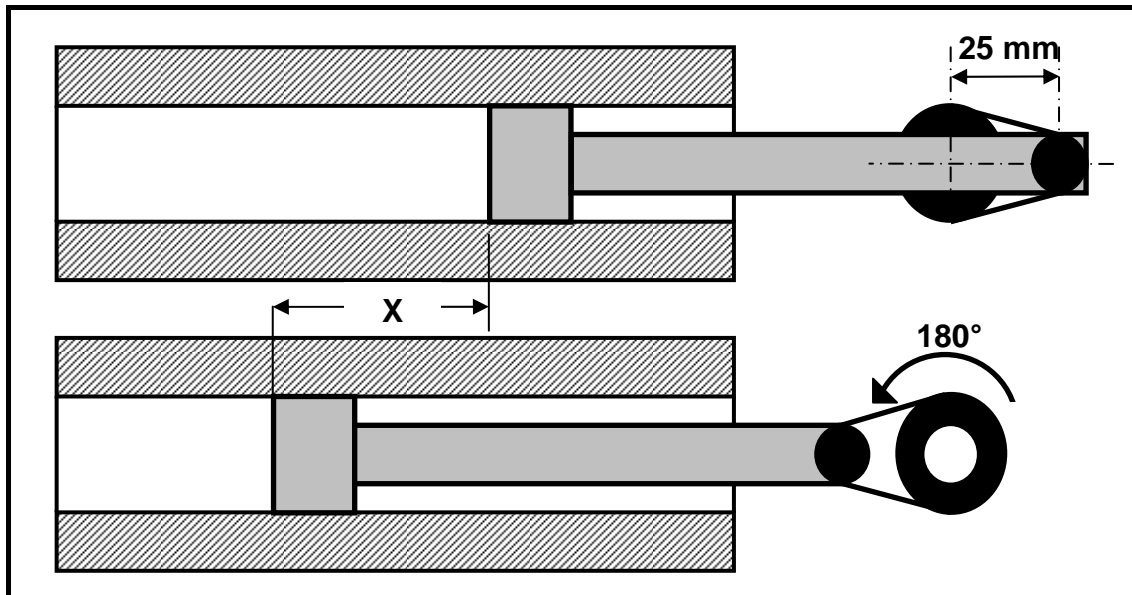

FIGURE 1.6
1.16 What distance (X) will the piston move if the crank moves through a distance of 25 mm, as indicated in FIGURE 1.6, and rotates through 180°?